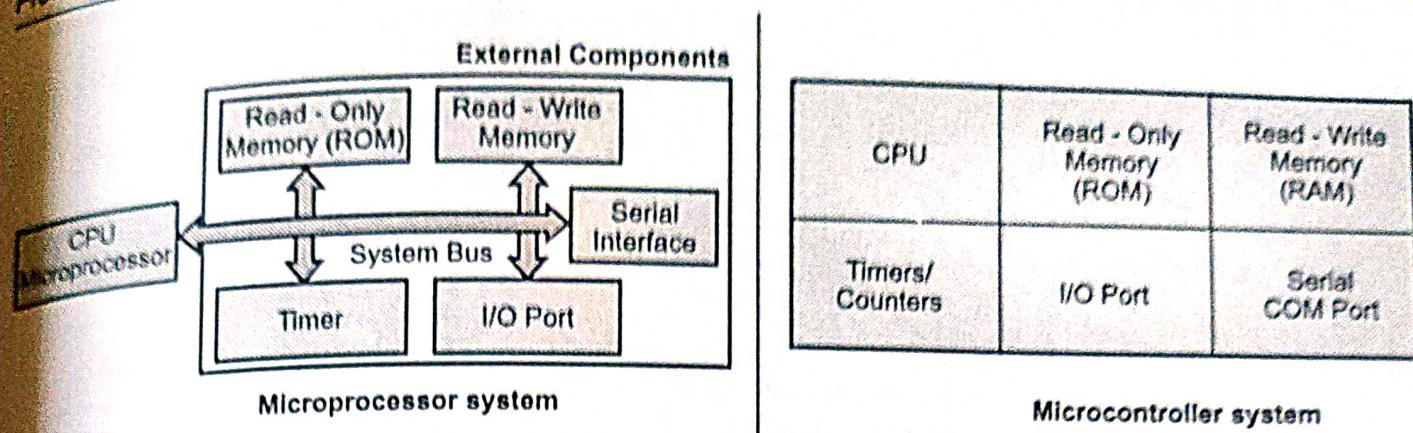

Fig. 1.3.1 Comparison between microprocessor and microcontroller systems
- Fig. 1.3.1 shows comparison between microprocessor and microcontroller systems.